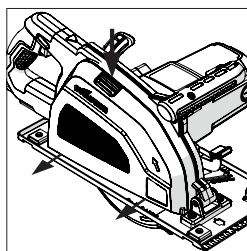
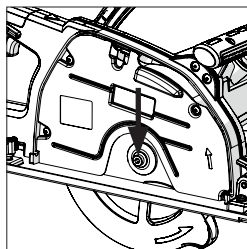

Fig. 3
Fig. 4
- Remove the chip collector, **(12)**, by depressing the release button, **(13)** (**Fig.3**), exposing the blade bolt, (**Fig.4**).